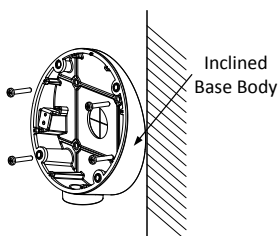

Figure 2-8 Fix the Inclined Base Body
5. Install the inclined base's body on the ceiling/wall with four PA4 $\times$ 25 screws, as shown in Figure 2-8.